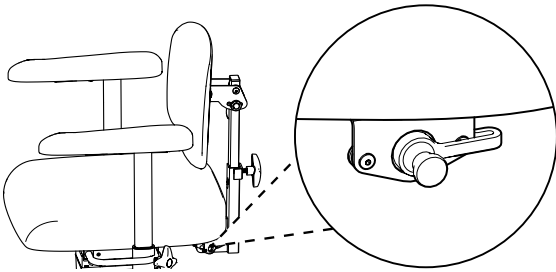

Figure 2.4. Charging socket plug connection under the seat.
1. Inset the plug into the charging outlet (see Figure 2.4). The charging outlet is usually placed in the rear edge under the seat.